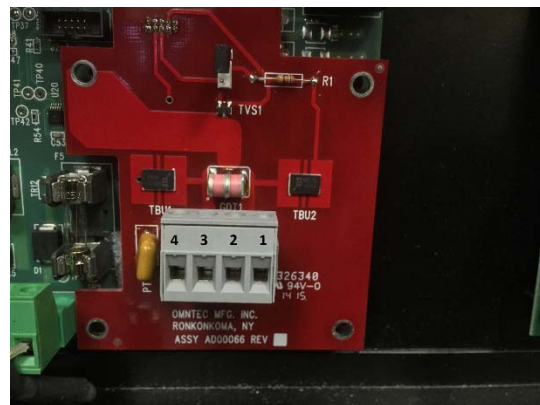

Figure 3.0
14. Prepare the proper ATG connection for RS-485. The RS-485 connection is located on the Proteus MCU on a small red board (See Figure 3.0).